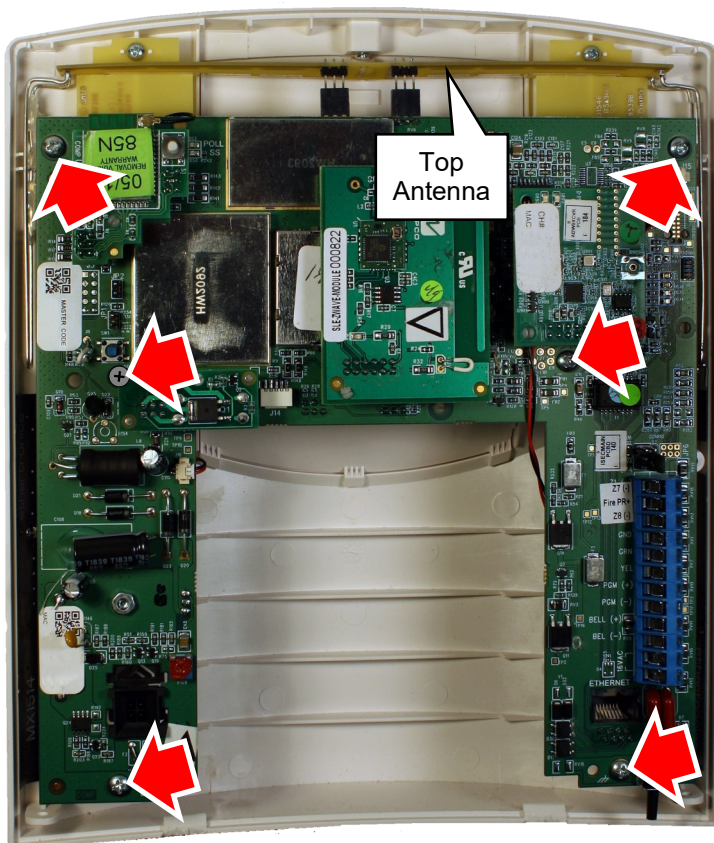

Fig. 2: Arrows show six (6) screws securing the motherboard. The Top Antenna, is also shown
3. **Remove the six (6) screws** that secure the Go-Anywhere Hub motherboard PCB to the front housing. See the arrows in Fig. 2 for screw locations.